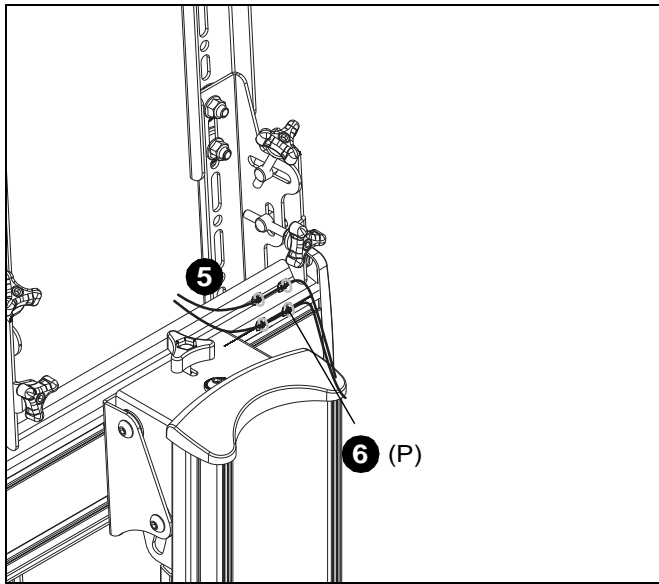

Figure 10
5. Route cables along FCA clips to be used for cable management. (See Figure 10)
6. Use cable ties (V) to secure cables to FCA clips. (See Figure 10)